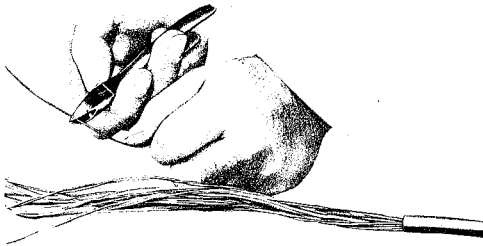

Fig. 8 – Skinning Conductors of Inside Wiring Cable
(3) Release pliers and grasp both conductors with hand. Continue pulling until the desired length of conductors are exposed.
(4) Cut off end portion at point of initial cut in Step 1.
(5) Remove insulation on conductors as shown in Fig. 8.